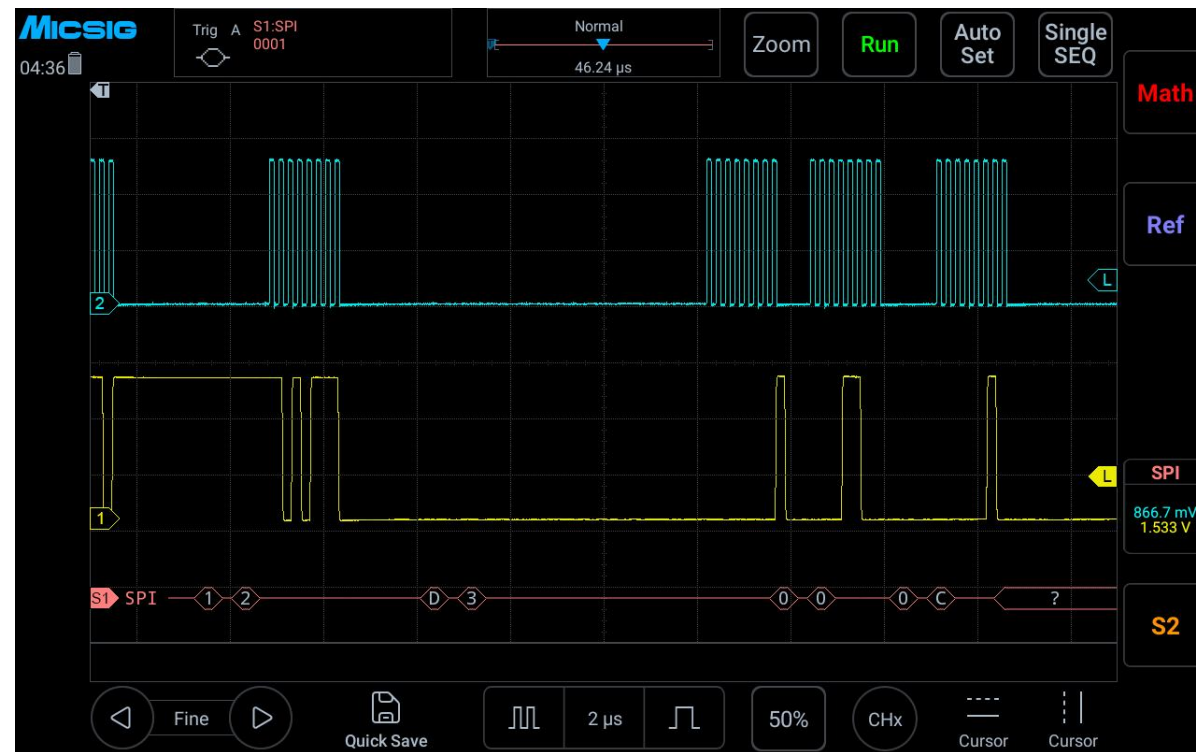

Figure 14-20 SPI bus decode interface
- (1) Tap S1 to open the decode channel, and click S1 again to open the bus configuration menu;
- (2) Select the bus type as “SPI”, click clock as “Ch1” rising edge, the data is “Ch2” high level, and the data word length is “4bit”;
- (3) Open the trigger setting menu, click data on the touch screen, and use the virtual soft keyboard to set the data to be matched as “0001”;
- (4) Adjust the threshold levels of two channels according to signal amplitude; the SPI trigger graphic interface is shown in Figure 14-20: